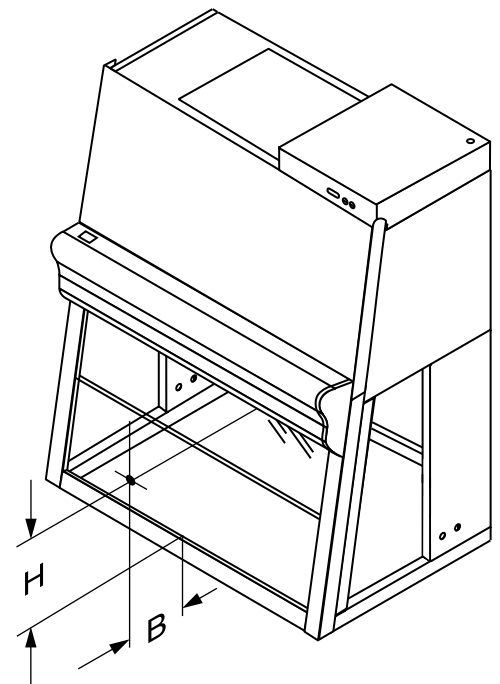

Fig. A11,
**Fig. A11:** Place the microphone outside the safety cabinet at distance **B** of 30 cm (12 in.) to the work aperture and at a height **H** of 38 cm (15 in.) above the work surface at the center of the work aperture.